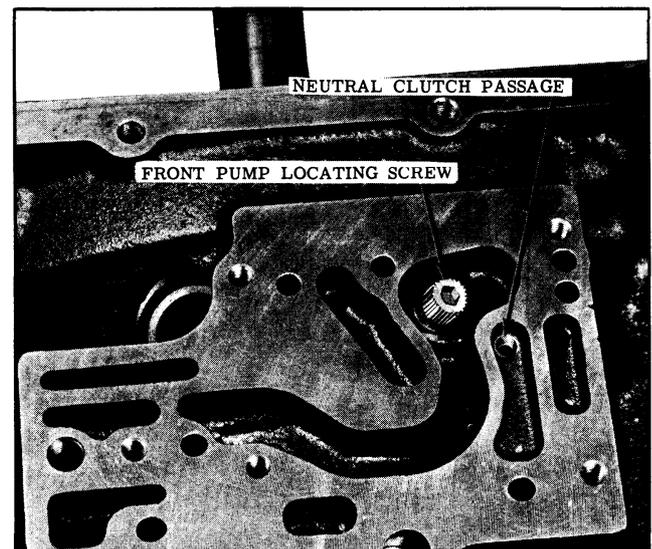

Fig. 3-145 Front Pump Locating Screw
15. Install front pump locating screw and lock washer finger tight. (See Fig. 3-145)